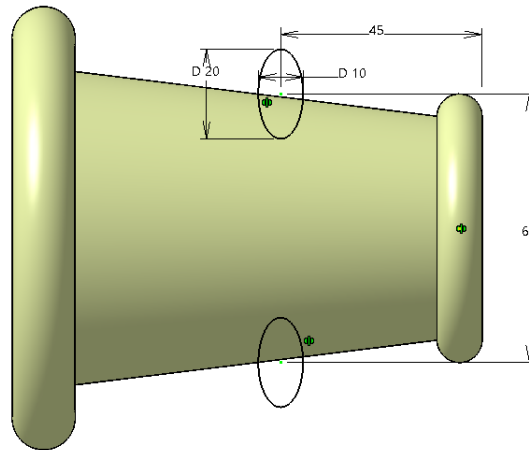

Figure 17-87 Sketch of the second surface feature
2. Create the sketch of the second surface feature, as shown in Figure 17-87.